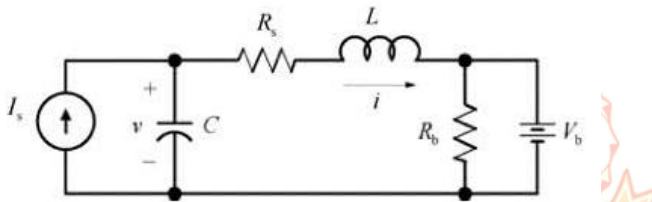

Fig.2
1. Develop a state space model for the following circuit shown in Fig.2
2. For the circuit shown in Fig.2,  $C=10\mu\text{f}$ ,  $L=5\text{mH}$ ,  $I_s=10\text{A}$  and  $R_b=100\Omega$  with proper time interval, simulate and plot the capacitor voltage.